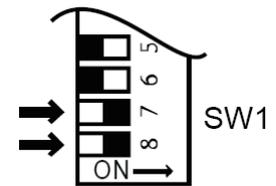

Fig. 5
13. Set the Rinnai to '**Forced High**' combustion by setting No.7 and No.8 dipswitches to 'ON' (Fig.5). Ensure maximum water flow.